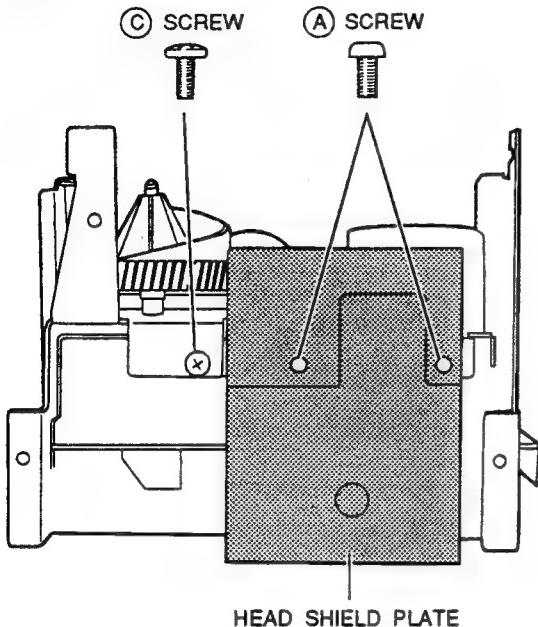

Fig. 3-1
3) Remove the **C** and two **D** screws and remove the SIDE PLATE (R) (refer to Fig.3-1 and 3-2).
4) Remove the two **E** screws and then remove the SIDE PLATE (L).
- 1) Remove the two \otimes screws and remove the HEAD SHIELD PLATE as shown in Fig. 3-1.